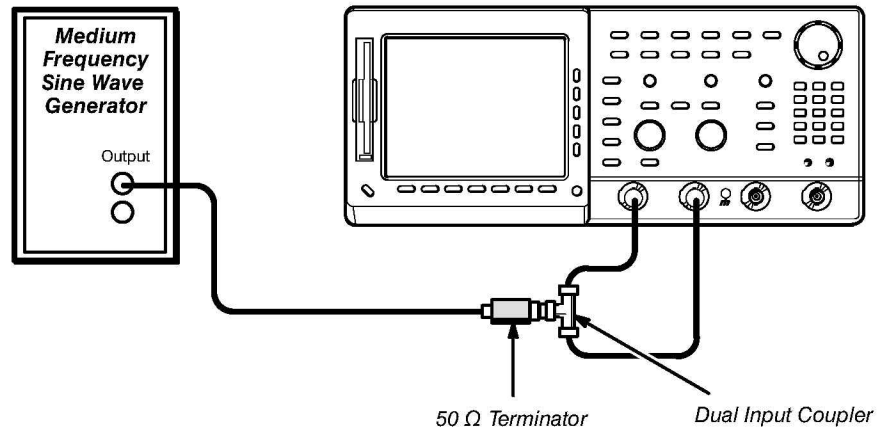

Figure 4-10: Initial Test Hookup
- Connect, through a 50 Ω precision coaxial cable followed by a 50 Ω termination, the sine wave output of a medium-frequency sine wave generator to a dual-input coupler. See Figure 4-10.
- Connect the coupler to both **CH 1** and **CH 2**. See Figure 4-10.